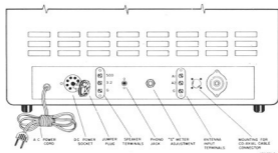

Fig. 4. Rear View of Receiver
The receiver is designed to operate directly on 105 to 125 volt, 50-60 cycle AC current. Provision has also been made in the receiver for operation from an external DC power source for portable or emergency service in areas where AC power is not available. Connections to the DC source are made through the DC POWER SOCKET at the rear of the receiver. (See Fig. 4.)
**IMPORTANT:** The receiver will not operate from an AC source unless the JUMPER PLUG is inserted in the DC POWER SOCKET. (See Fig. 4.)
A three-terminal strip, marked "G", "3.2" and "500", is provided at the rear of the receiver for connecting the external speaker that is required with the receiver. (See Fig. 4.) Any permanent magnet speaker with a 3.2 ohm voice coil can
A phono jack is provided at the rear of your receiver for attaching a record player. (See Fig. 4.) Any record player using a crystal cartridge,
The receiver may be disabled from a remote location by connecting a remote SPST switch between pins 1 and 4 of the JUMPER PLUG located in the DC POWER SOCKET at the rear of the receiver. (See Figs. 4 and 6.) To operate the receiver with the remote switch, the RECEIVE-STANDBY switch on the front panel must be left at "STANDBY".